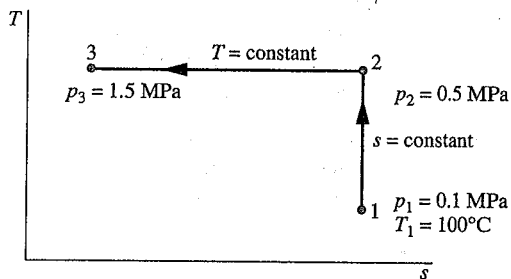

Fig. P6.20
6.20 One kilogram of water in a piston-cylinder assembly undergoes the two internally reversible processes in series shown in Fig. P6.20. For each process, determine, in kJ, the heat transfer and the work.